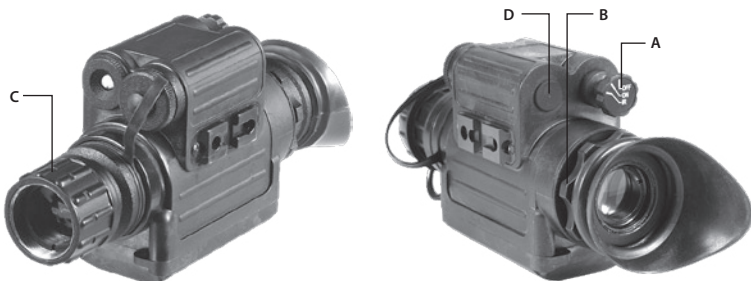

FIGURE 3-10. SPARK CONTROLS
The Spark controls are shown in Figure 3-10.
Function Switch (Figure 3-10, A)	OFF position — the unit is off.
Eyepiece Ring (Figure 3-10, B)	Adjusts the unit diopter. The total dioptric range is covered in a 1/2 ring revolution.
Focusing Ring (Figure 3-10, C)	Focuses the lens. Adjusts for sharpest view of the scene. The total focus range is covered in a 1/3 ring revolution.
Bi-color LED Indicator (Figure 3-10, D)	A GREEN glow indicates that the unit is turned on and ready for operation.
4. Turn the function switch ON. The green indicator light (Fig. 3-10, D) indicates that the unit is ready for operation. After a slight delay, a green glow will appear in the eyepiece of the monocular.